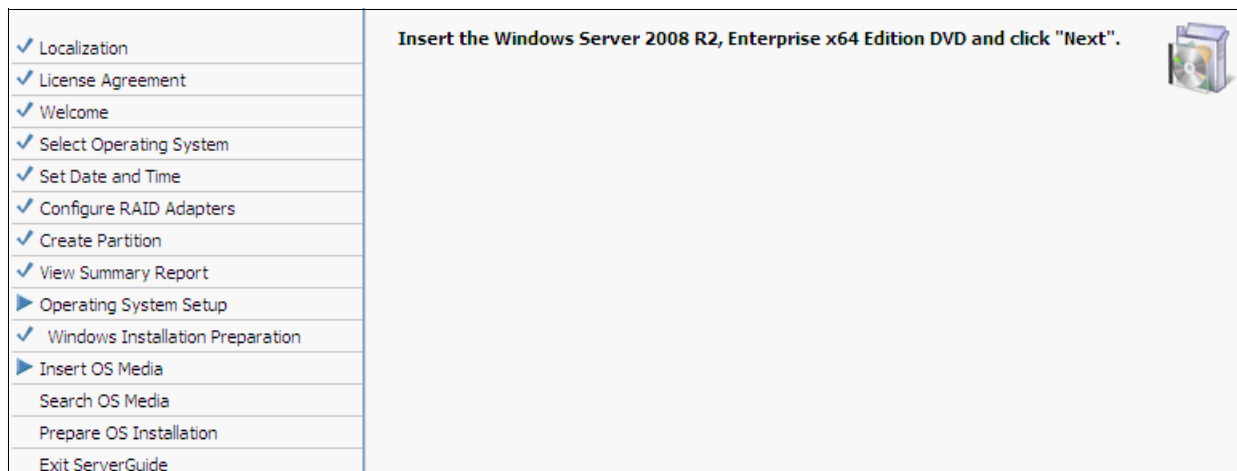

Figure 9-59 Prompt to insert the install medium
19. Insert the operating system installation DVD and click **Next**, as shown in Figure 9-59 on page 507. ServerGuide searches for the disc.